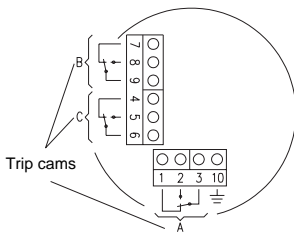

Fig. 3 : Pin connection
- Connect strands to the clip terminals (fig. 3).